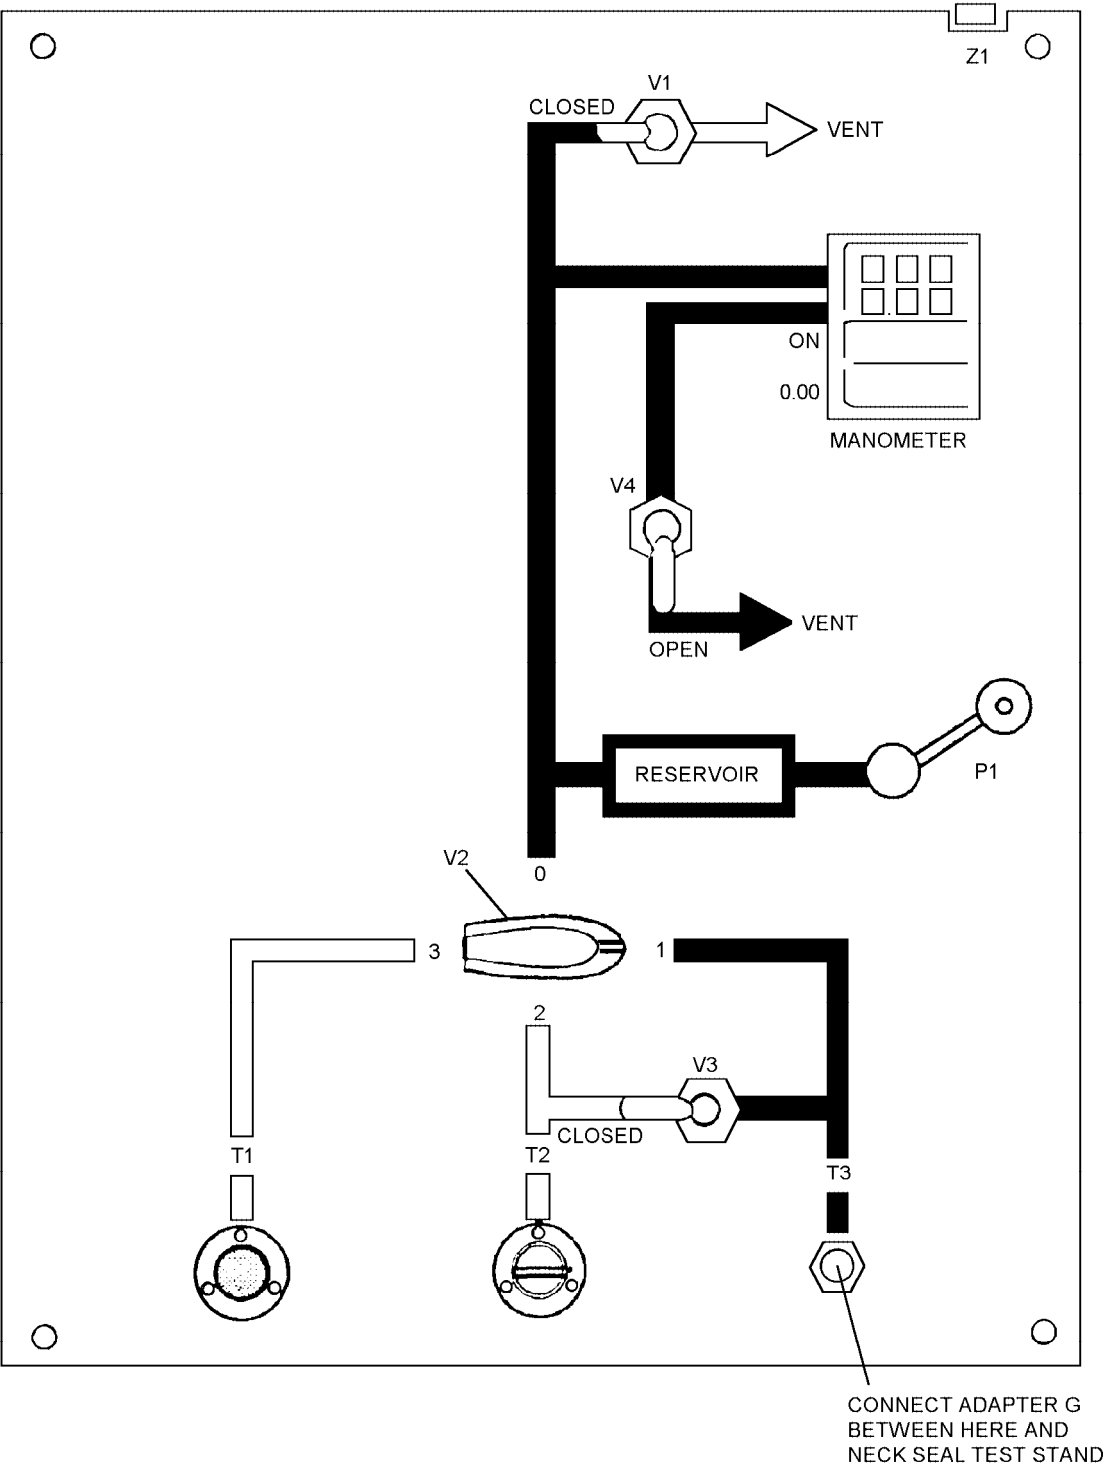

Figure 4-85. Compensated Exhalation Valve - Functional Test
4. Connect adapter G to T3 and the neck seal test stand (figure 4-85).